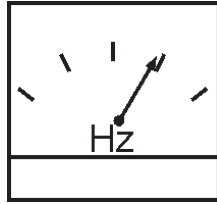

Figure 43. Frequency Meter (Hz)
5. The generator's frequency meter (Figure 43) should be displaying the 60 cycle output frequency in **HERTZ**.